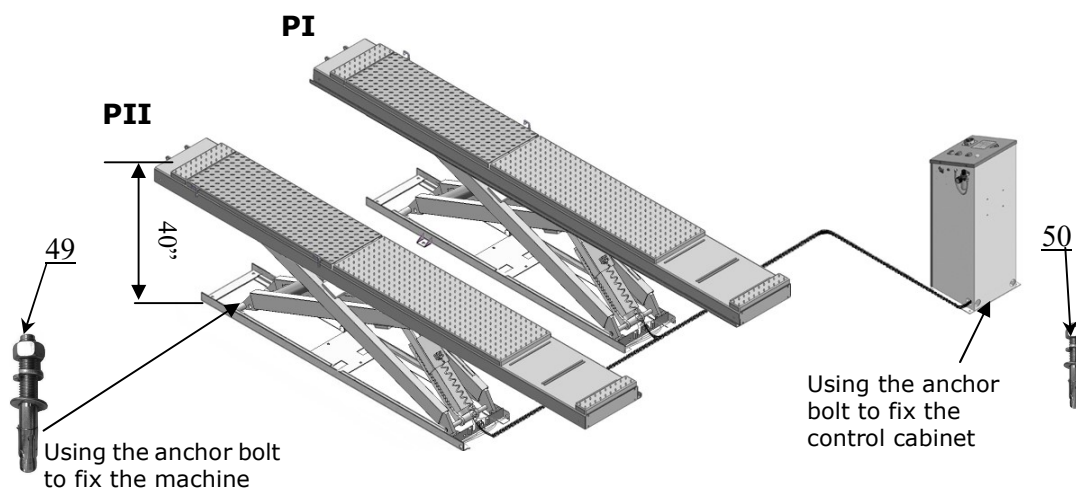

Fig. 31
- 2.1 Raise the lift to 40" then drill holes to install the anchor bolts (See Fig.31).